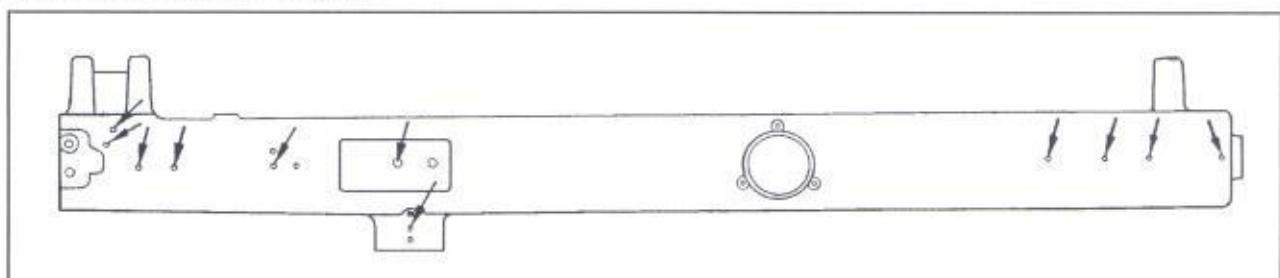
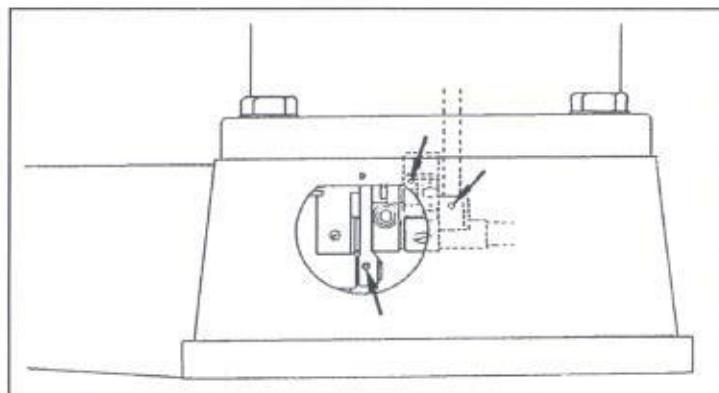

Fig.1.1
Fig.1.2
3) Lubrication (Fig.1.1, Fig.1.2)